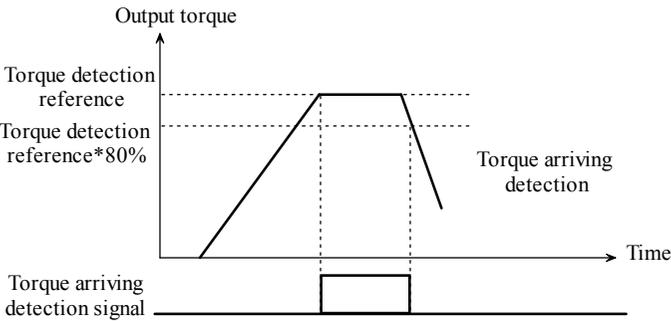

Fig. 5-3-11 Torque arriving detection threshold
- ◆ If motor torque is equal to or more than the range of torque detection reference, the output of terminal is valid. If the motor torque is less than 80% of reference, the output of terminal is invalid, as shown in Fig. 5-3-11.